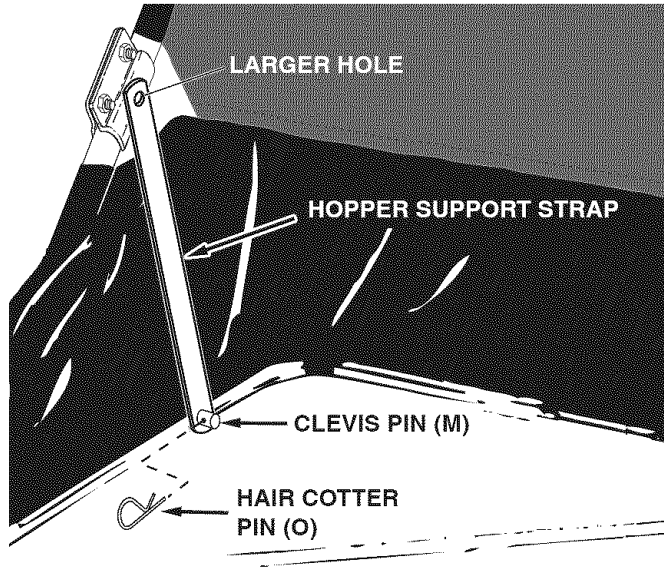

FIGURE 15
- Attach the hopper support straps (end with smaller hole) to the lower hopper tubes using a clevis pin (M) and hair cotter pin (O) for each strap. See figure 15.